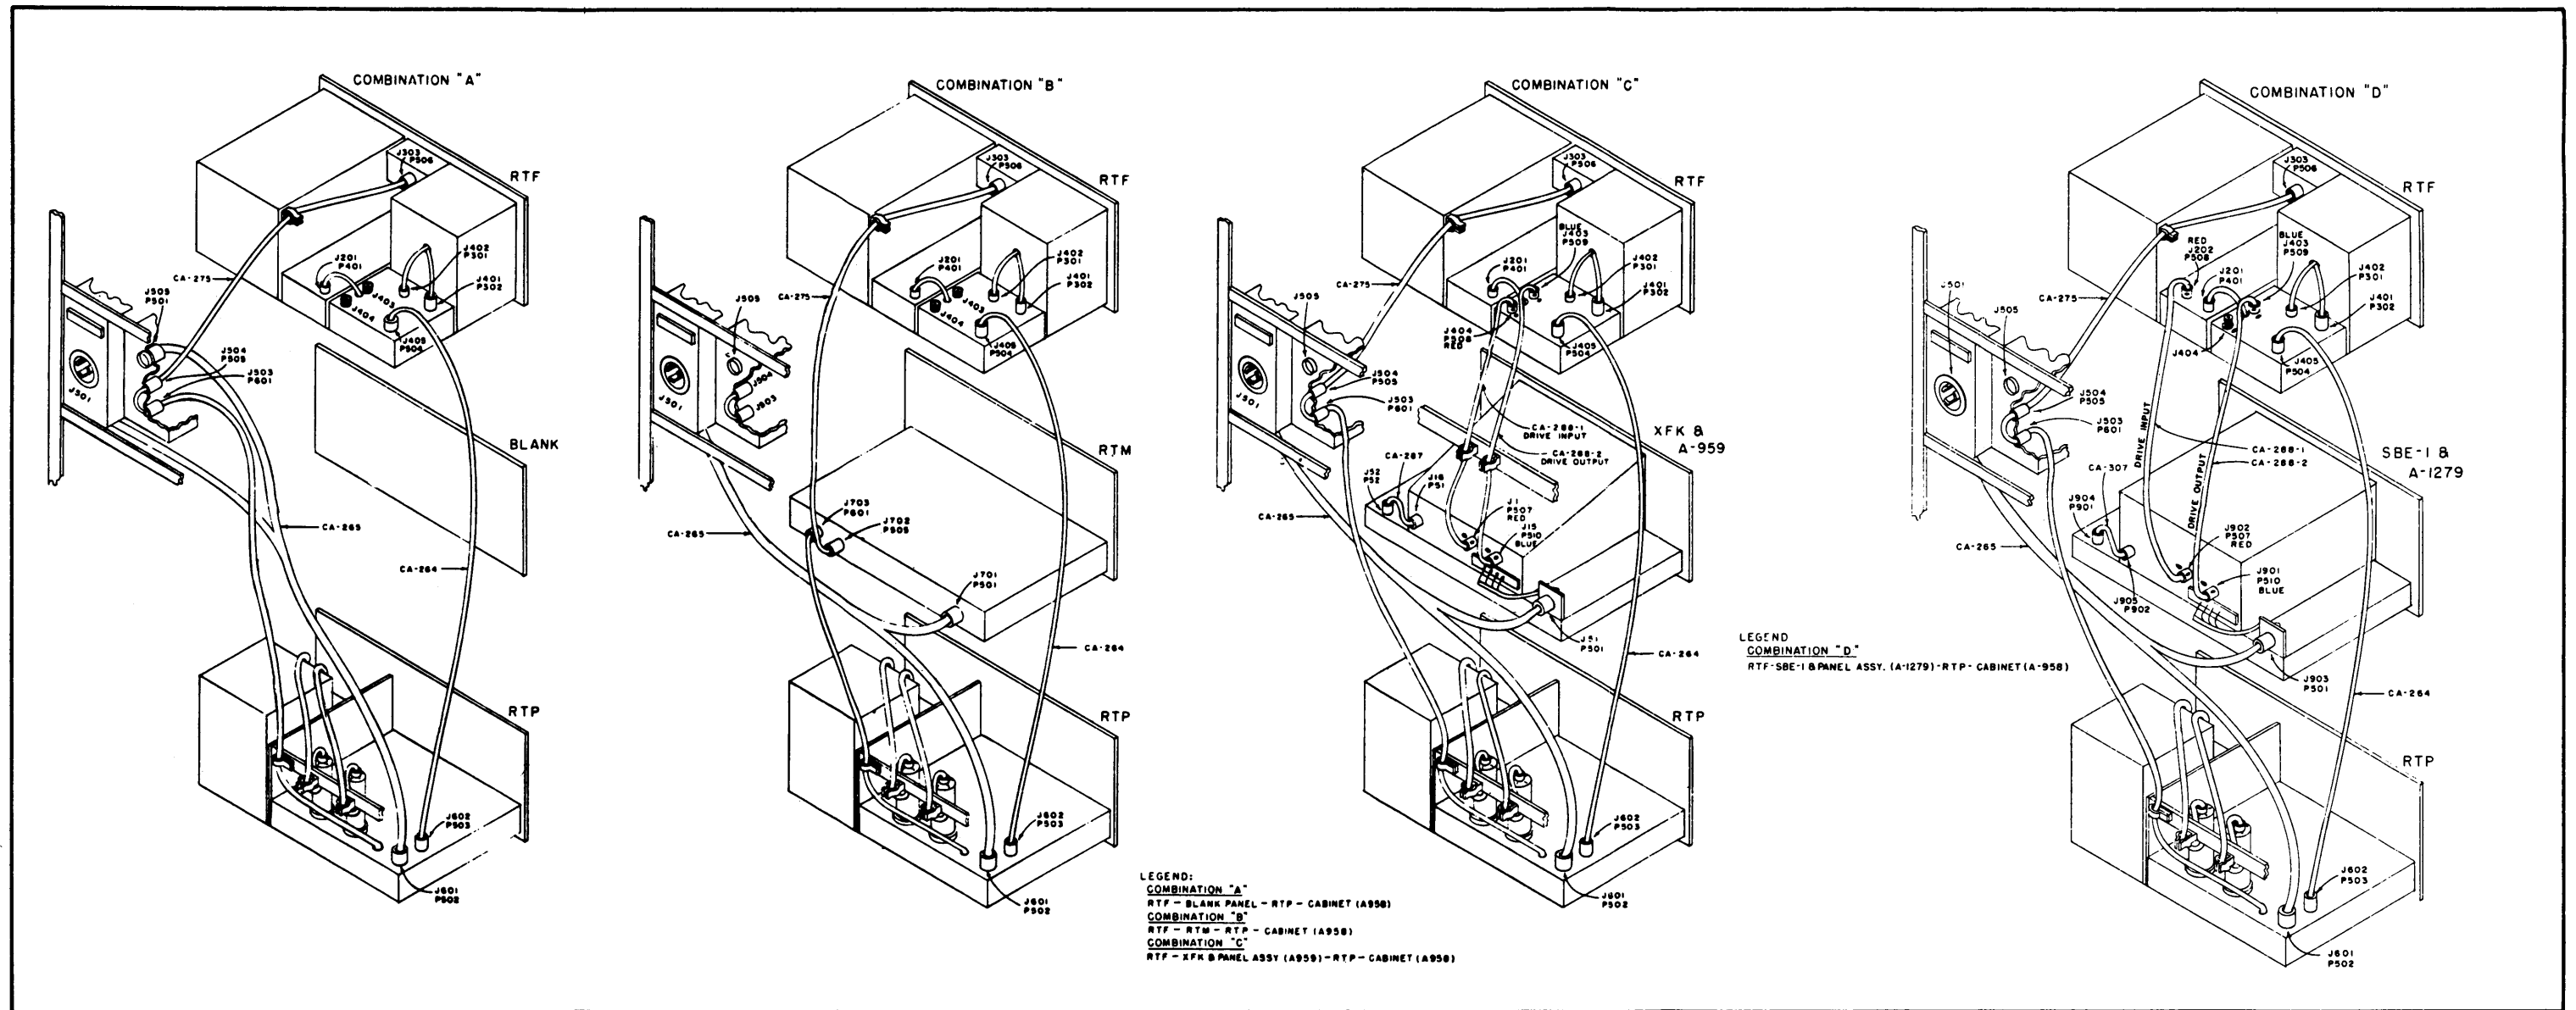

Figure 3-8. Cabling Diagram
WILL BE DISREGARDED AND REFERENCE SHOULD BE MADE TO THE CABLING DIAGRAM, FIGURE 3-8.
**B. CW OPERATION (For combinations A, B, C or D, Figure 3-8)**